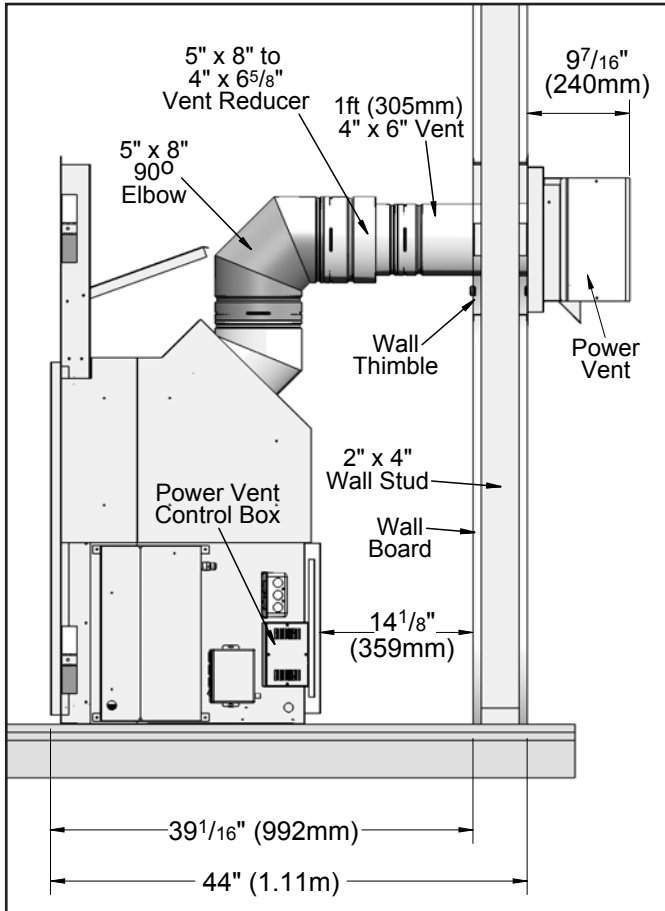

Figure 4 Typical overall dimensions with minimum horizontal vent installed.
- 50 feet (15.25m) of cable is supplied with this kit, if more venting is required, use 50-2104 - 100 feet (30.5m) PVK CABLE and connect it as shown on the wiring diagram in Figure 4.
3. Using the dimensions in Figures 4 & 5, frame an opening for the thimble of 14½" x 14½" (368mm x 368mm).